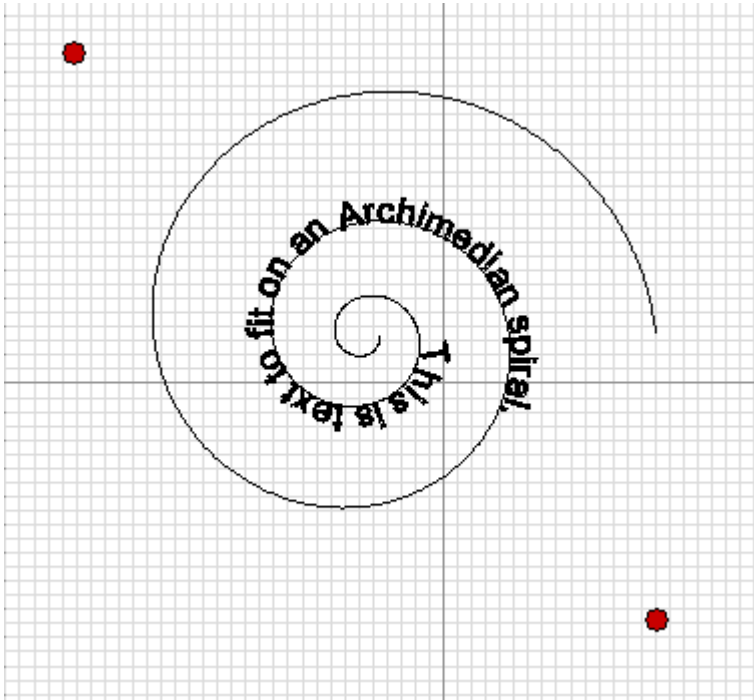

Fig. 2c. Spiral Text Layout
3. Spiral (Fig. 2c). The two (red) active control points effect the width height of the spiral